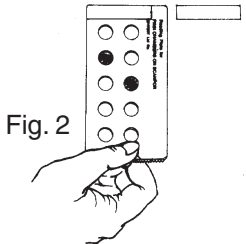

Fig. 2
**Check test sites** immediately after removal of the tests. A ringshaped depression around each test (Fig. 2) verifies the occlusion and validates the test, especially in the case of negative reactions.
To locate and identify the reactions align the top left corner of the Reading Plate either with the ink mark on the skin or tape (Fig. 2). The Reading Plate serves as a template with the holes indicating the test sites.